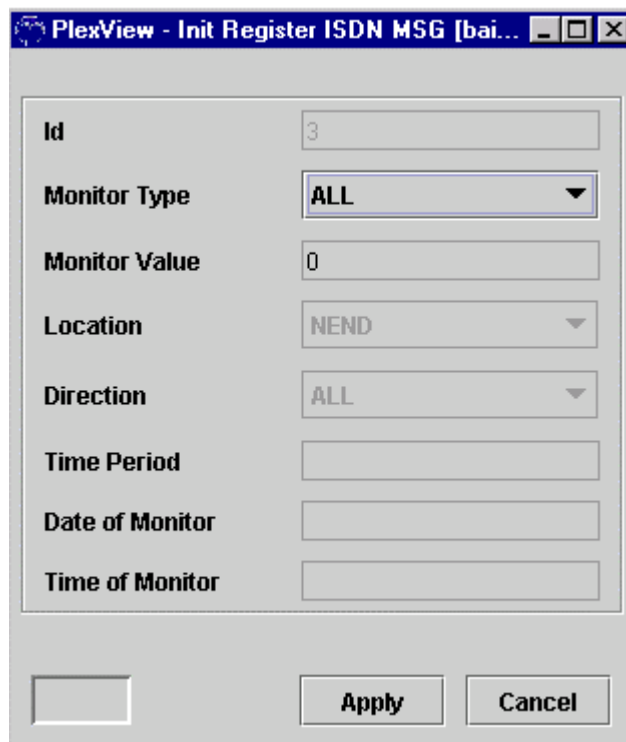

Figure 3. Initialize ISDN Message Registers
15. Double-click the switch name in the switch status panel to select it for the main panel. Double-click *ISDN* and then *Interfaces*. Right-click an interface and select *Init Register*. Make change and then click *Apply*. See Figure 3.